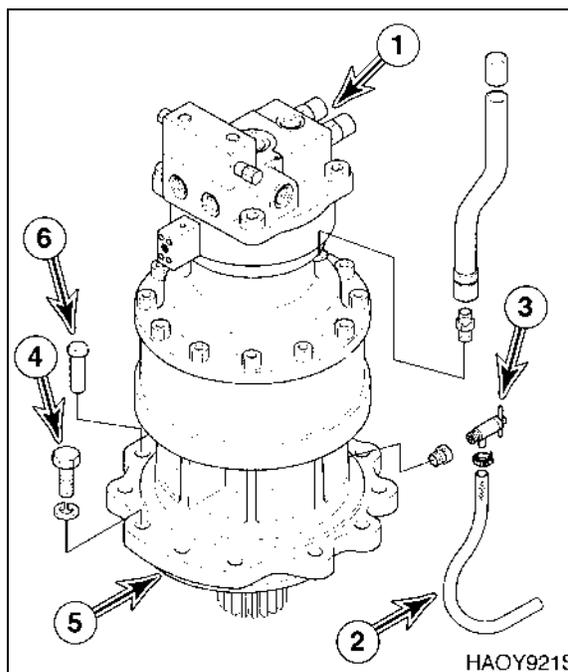

Figure 6
7. Tag and disconnect hoses from swing motor (1, Figure 6). Plug and cap hoses and port to prevent contamination from entering hydraulic system or component.
8. Disconnect tube (2) from drain valve (3)
9. Remove eleven bolts and washers (4, Figure 6) holding swing reduction gearbox (5) to frame.
10. Using a suitable lifting device, sling swing motor (1, Figure 6) and remove swing motor and reduction gearbox (5) as an assembly from unit.
**NOTE:** A drain valve (3, Figure 6) and tube are located on side of gearbox. Be careful not to damage valve or tube.
**NOTE:** There is one alignment pin (6, Figure 6), located on side of reduction gearbox flange.